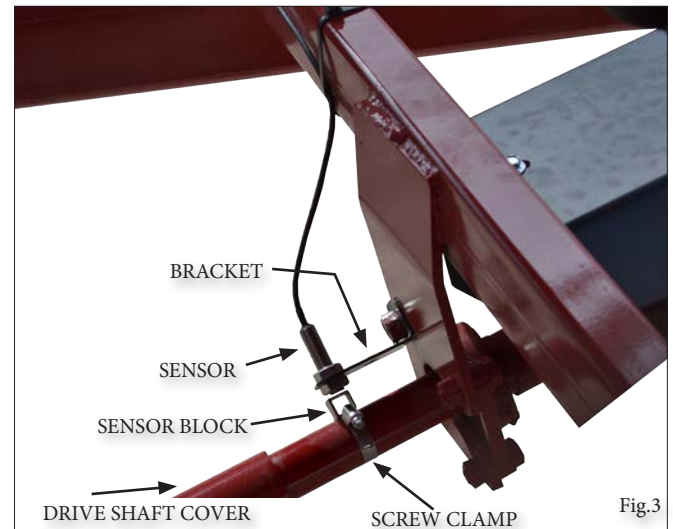

Fig.3
6. Remove the bottom hose from the check valve on the folding cylinder in the front of the cart. (Fig 3.)
7. Install JM0030064- 3/8" Female NPT X #8 Male O-Ring Hex Nipple to the top port on the Lock & Load valve. Use a 7/8" wrench. (Fig 3.)
8. Attach the Lock and Load valve to the check valve. (Fig 3.)
9. Install JM0034657 fitting to the bottom of the Lock & Load valve. Orientate the Lock and Load valve according to Fig. 3.
10. Attach hose from step 7 to the #8 O-Ring x 3/8 NPT Female Swivel 90 Degree fitting. (Fig 3.)
4. Install the sensor bracket onto the top left bolt of the bearing holder. Use 3/4" wrench to remove and attach 5/8" lock nut. (Fig. 3.) (For 525 & 620 model grain carts replace bolt with 2-1/4" x 5/8" hex bolt. Install (2) 5/8" hex nuts, sensor bracket, then the 5/8" lock nuts.)
5. Attach the sensor to the sensor bracket. A 1/16" should separate the sensor and the sensor block. Adjust accordingly, then tighten the two jam nuts using 15/16" wrenches. (Fig 3.)
6. Route the cable coming from the sensor through the A-Frame tube towards the front drivers side leg. Connect the two prong end portion of the cable to the main wiring harness. (Fig. 3.)